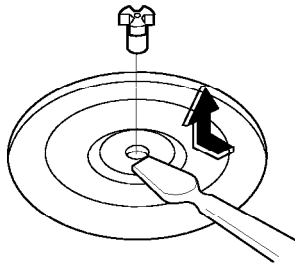

Figure 29
- (1) Remove the turntable.
- (2) Remove the turntable shaft VERY CAREFULLY with a slotted screwdriver. (Figure 29)